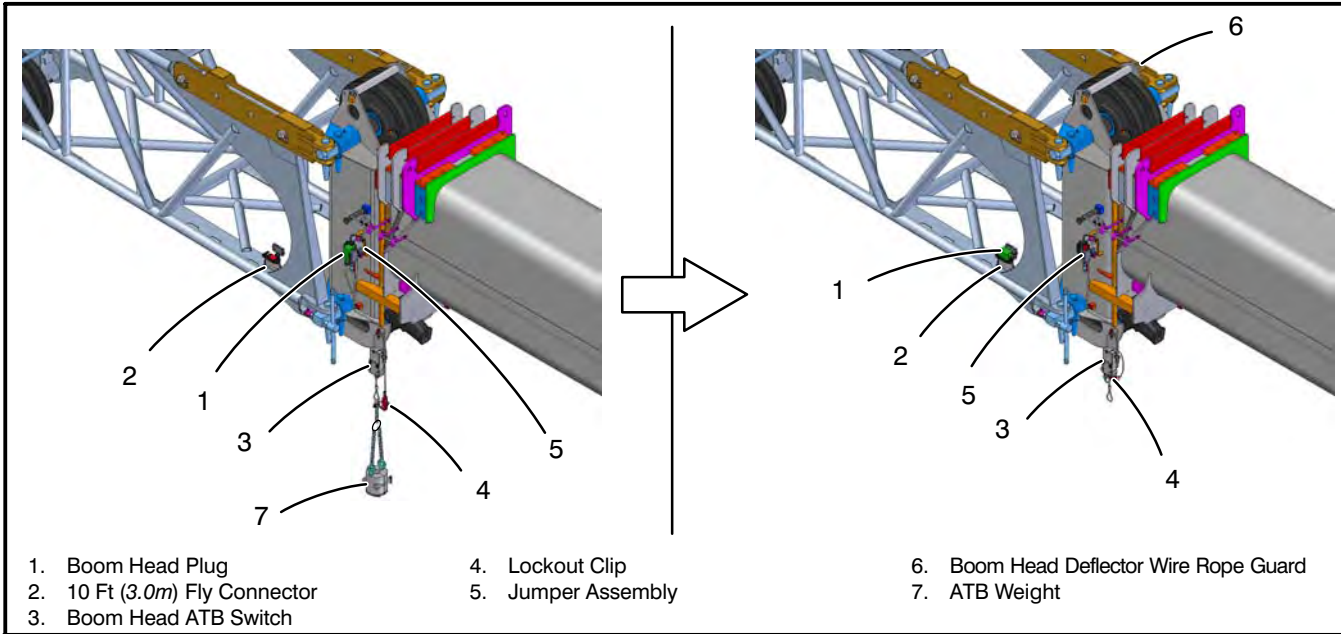

Figure 4–143
22. Remove all wire rope guards from the fly and boom head deflector sheaves. Refer to Figure 4–142 and Figure 4–143. Reeve the winch wire rope over the boom deflector sheave, then on the fly base deflector sheave.